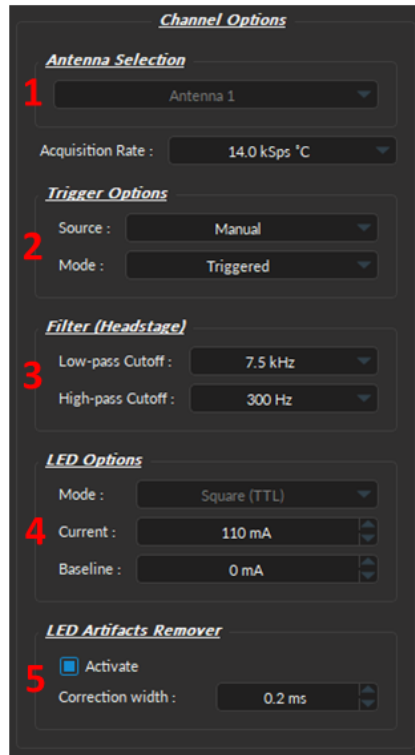

Figure 3.14: Antenna Channel Options
The **Channel Options** (Fig. 3.14) of the *Antenna Channel Configuration* window sets the trigger and recording parameters, as follows:
1. The **Antenna selection** (Fig. 3.14, 1) box shows the currently selected antenna.
2. The **Trigger options** (Fig. 3.14, 2) box allows the selection of trigger parameters for data acquisition.
3. The **Filter (Headstage)** (Fig. 3.14, 3) filters define the high and low-pass frequency cutoff for electrical signal received by the headstage.
- The **Low-pass Cutoff** (Fig. 3.14, 3) is used to attenuate the noise and smooth the waveform of the spikes. The cut-off value can be set between (1-500Hz), depending on the need of the experiment.
- The **High-pass Cutoff** (Fig. 3.14, 3) is used filter the multi-unit activity that occurs from the average / synchronized spiking of a small population of neurons in the vicinity of the electrodes. It can also removed DC noise. The cut-off value can be set between 0.1-500Hz.
4. The **LED options** (Fig. 3.14, 4) are all parameters used to control the light source of the cannula connected to the *Fi-Wi headstage*, such as:
- The **Mode** (Fig. 3.14, 4) allows the selection of the pulse sequence mode.
- The **Maximum current** (Fig. 3.14, 4) defines the current sent to the cannula LED. For proper function of the cannula, the current should always be greater than 10 mA.
- The **Baseline** (Fig. 3.14, 4) leaves a small offset to the current sent to the LED. It is recommended to use a small offset, as a complete shut-down of the LED will induce a spike in the electrical acquisition signal.
- Check the **Active** box (Fig. 3.14, 5);
- Specify the size of the **Correction width** (Fig. 3.14). The minimum value is **0.1 ms**. And while the maximum value can reach 1 second, it is important to note that the larger the **Correction widths**, the more likely true spikes are removed from the signal. Thus, the value must be selected carefully, taking into account this trade-off.